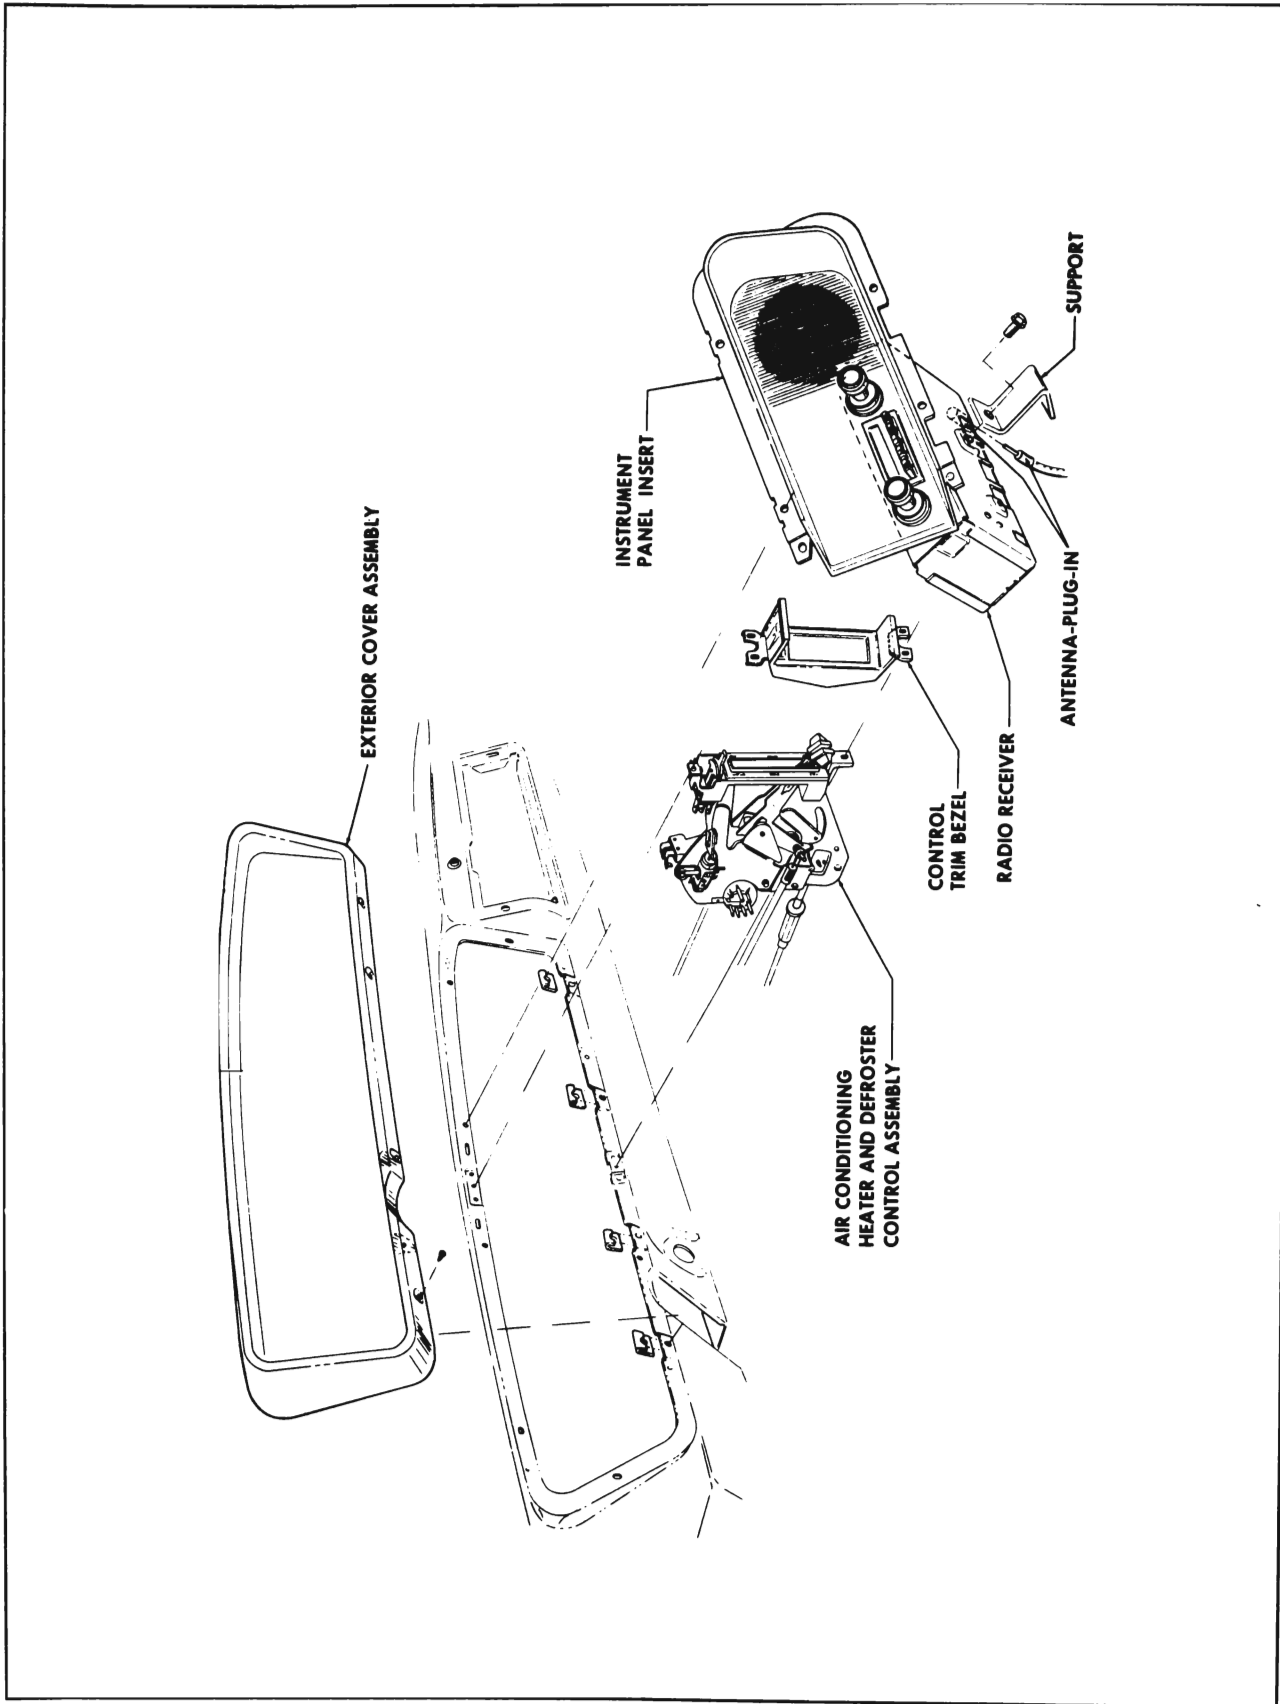

Figure 11-114—Air Conditioner Heater and Defroster Control Assembly Installation
1. Remove five screws and take out exterior cover assembly (see Figure 11-114).